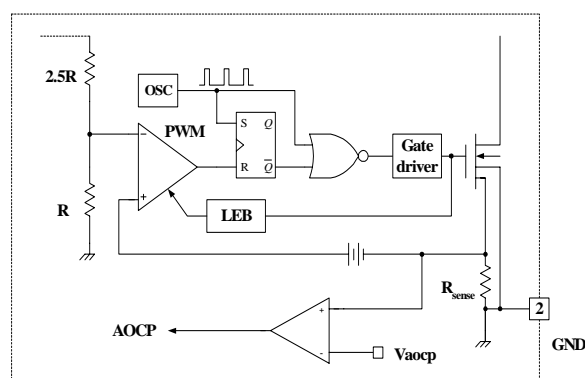

Figure 14. AOCP block
4.2 Abnormal Over Current Protection (AOCP) : When the secondary rectifier diodes or the transformer pins are shorted, a steep current with extremely high di/dt can flow through the SenseFET during the LEB time. Even though the FSCQ0765RT has OLP (Over Load Protection), it is not enough to protect the FSCQ0765RT in that abnormal case, since severe current stress will be imposed on the SenseFET until OLP triggers. The FSCQ0765RT has an internal AOCP (Abnormal Over Current Protection) circuit as shown in Figure 14. When the gate turn-on signal is applied to the power Sense FET, the AOCP block is enabled and monitors the current through the sensing resistor. The voltage across the resistor is then compared with a preset AOCP level. If the sensing resistor voltage is greater than the AOCP level, the set signal is applied to the latch, resulting in the shutdown of SMPS. This protection is implemented in latch mode.